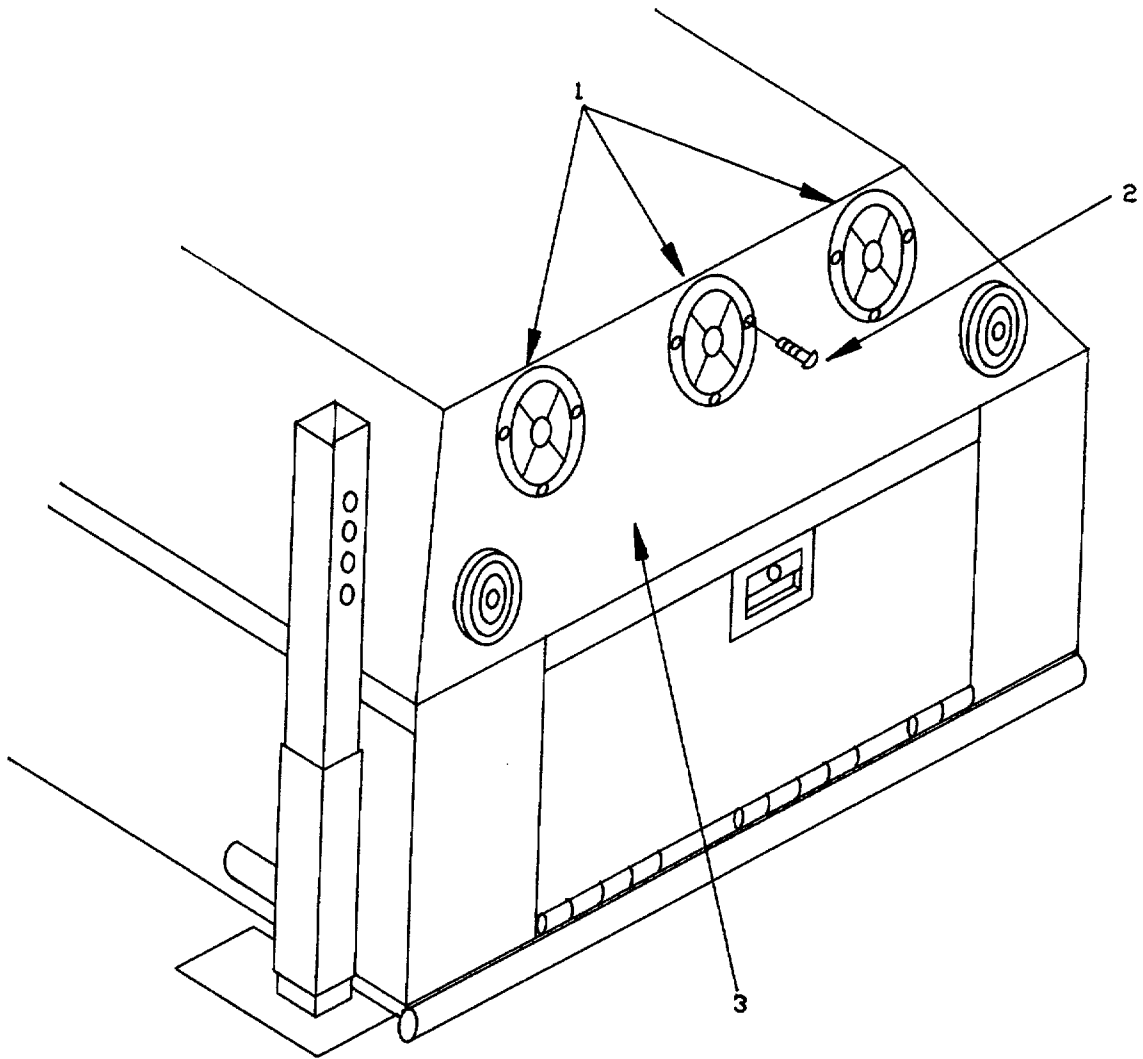

Figure 4-2. Vent Louvers.
- (1) Remove self tapping screws (2, Figure 4-2).
- (2) Remove vent louvers (1).